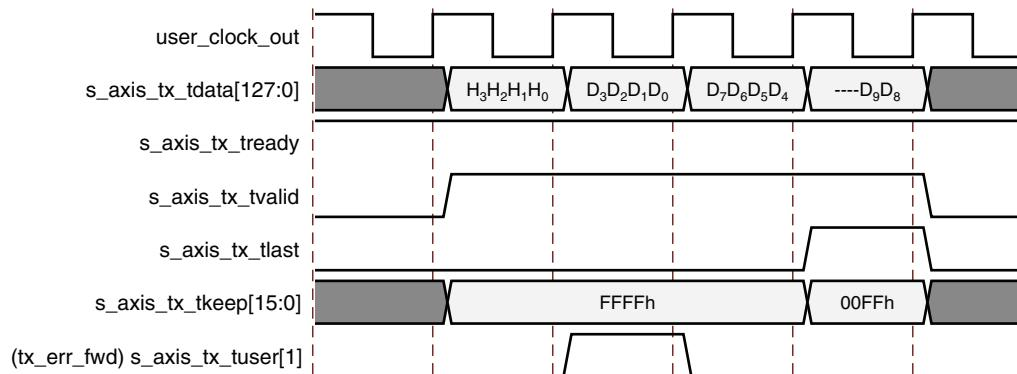

Figure 3-39: Packet Data Poisoning on the Transmit Interface
- Assert s_axis_tx_tuser[1] (tx_err_fwd) for at least one valid data transfer cycle any time during the packet transmission, as shown in Figure 3-39. This causes the core to set EP = 1 in the TLP header when it transmits the packet onto the PCI Express fabric. This mechanism can be used if the user application does not know whether a packet could be poisoned at the start of packet transmission. Use of tx_err_fwd is not supported for packets when s_axis_tx_tuser[2] (tx_str) is asserted (streamed transmit packets). In streaming mode, you can optionally discontinue the packet if it becomes corrupted. See Discontinuing Transmission of Transaction by Source, page 52 for details on discontinuing packets.